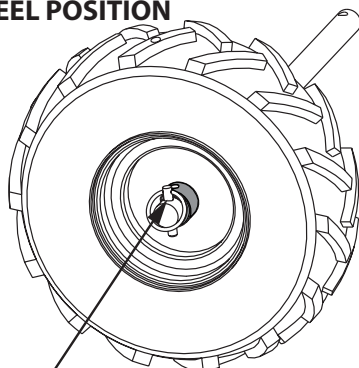

FIGURE 10
1. Remove lock pin. Slide wheel inward toward machine. **SEE FIGURE 10**